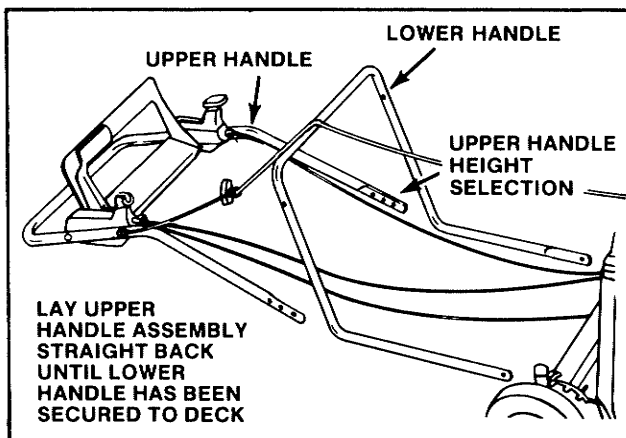
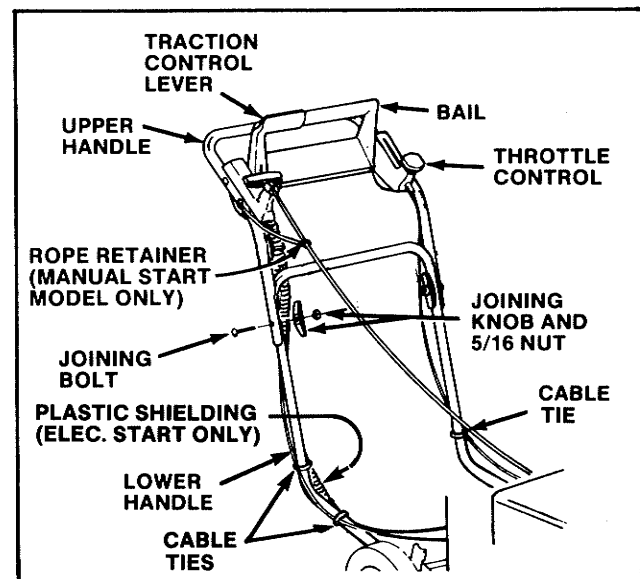

FIGURE 1
FIGURE 3
3. Take two of each of the following from the bag of parts: joining bolt, joining knob, and hex nut. Select the height desired for the upper handle (see Figure 1) and push a joining bolt through the holes on the left side of the handles. (See Figure 3).
1. Lay the upper handle straight back from the mower so as not to pull or crimp the control cables. Lay the cables between the sides of the handles so they will go under the crossbar of the lower handle when the handles are put together. (See Figure 1.)
- Route traction control cable and engine control cable (inside plastic shielding on electric start model) down right side of handle as shown in Figure 3. Install one cable tie on handle above curved section and one below curved section.